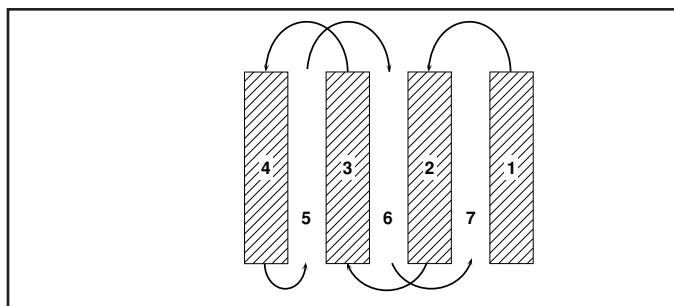

Fig. 14
- You will find tilling much easier if you leave a row untilled between passes. Then go back between tilled rows. (See Fig. 14) There are two reasons for doing this. First, wide turns are much easier to negotiate than about-faces. Second, the tiller won't be pulling itself, and you, toward the row next to it.